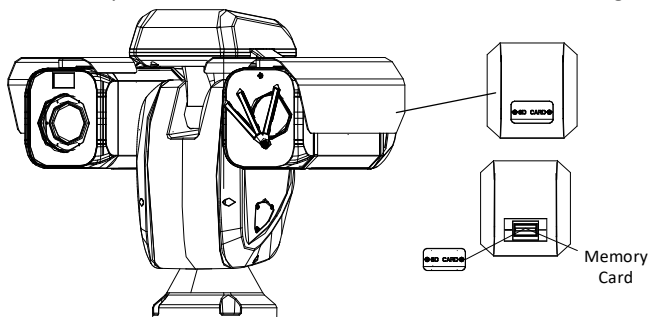

Figure 3-3 Memory Card Installation
2. Insert the memory card into the card slot until it clicks, as shown in Figure 3-3.